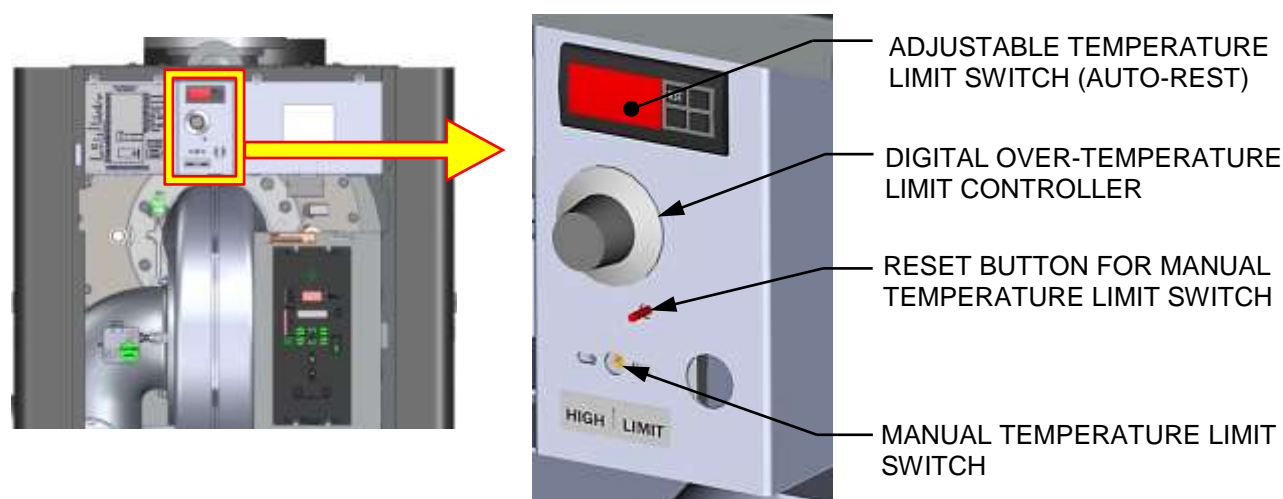

Figure 4-5: Over-Temperature Limit Switch Location
The unit contains three (3) types of over-temperature limit controls. These controls consist of a Manual Reset button, a rotary adjustable Temperature Limit switch and a digital Over-Temperature Alarm button. These controls are mounted on a plate as shown in Figure 4-5. They can be accessed by opening the front panel door of the unit.
The Manual Reset button is not adjustable and is permanently fixed at 210°F (98.9°C). This button will shut down and lock out the boiler if the water temperature exceeds 210°F (98.9°C). Following an over-temperature condition, it must be manually reset by pressing the Manual Reset button shown in Figure 4-5 before the boiler can be restarted.
The digital Over-Temperature Alarm switch shown in Figure 4-5 and 4-6 is preset at the factory to 210°F (98.9°C) and should not be changed. If an over-temperature condition is detected, this switch automatically shuts down the boiler and sounds an audible alarm. If desired, the Over-Temperature Alarm can be checked or adjusted using the procedure in Section 4.8.1.